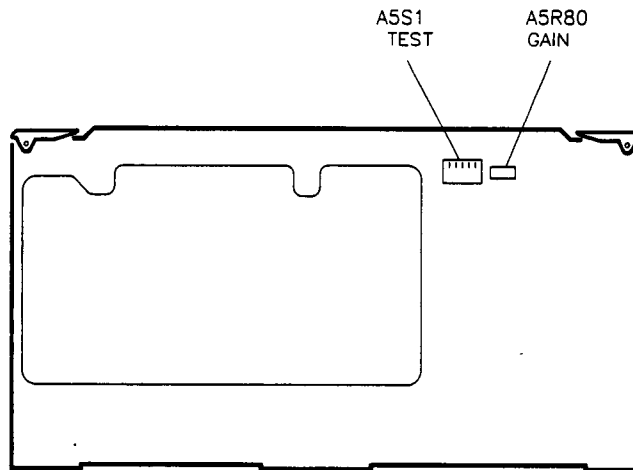

Figure 3-14. Switch and Adjustment Locations
4. On the A5 assembly, set all five switches on A5S1 to the closed position (see figure 3-14).
5. Adjust A53R80 (see figure 3-14) to center the "needle" on the display.